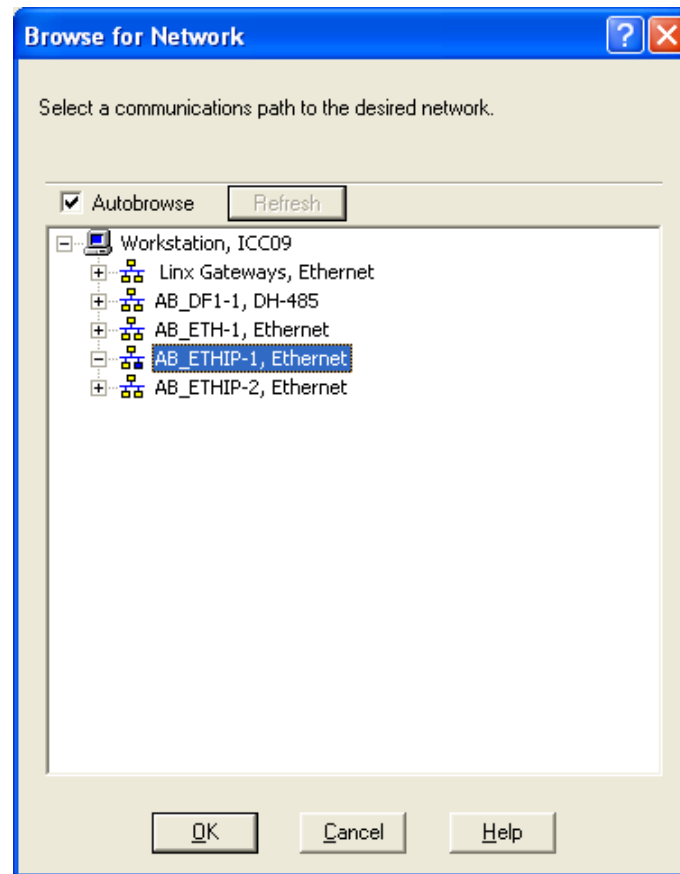

Figure 63: RSNetWorx Select EtherNet/IP Driver
- b) Choose the EtherNet/IP Driver that was previously created in RSLinx (see Figure 63). Click OK.